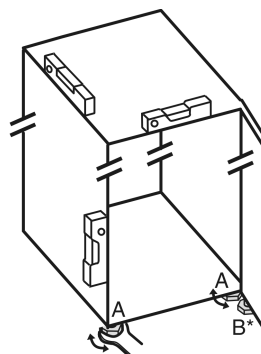

Fig. 27
- ▶ Unscrew the adjustable feet Fig. 27 (A) using the enclosed open-end spanner and a spirit level until the appliance is firmly aligned and level.
- ▶ Unscrew the adjustable foot Fig. 27 (B) on the swap bearing block with the enclosed open-end spanner until it rests on the floor.
- ▶ Turn the adjustable foot Fig. 27 (B) a further 90° at most to avoid damaging the door.